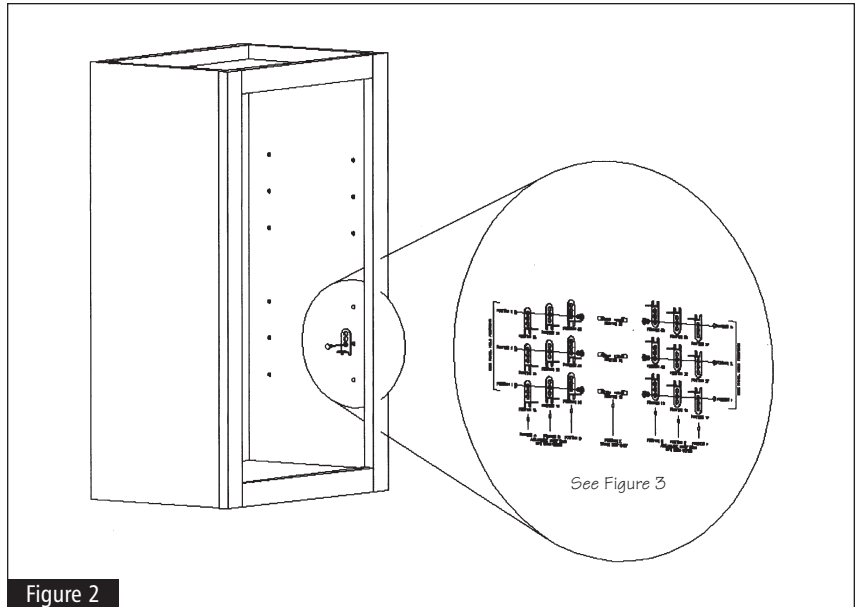

Figure 2
- 4 Based on the height of the cabinet and the door type, use the information provided in Figure 1 to determine which holes on the side panel the adjustable shelf rests and/or spoon shelf rests will be inserted into. See Figure 2 (next page). Also note the orientation of the adjustable shelf rests as seen in Figure 3 (next page).